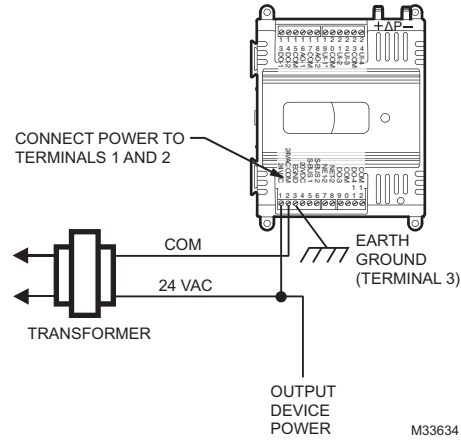

Fig. 8. Power wiring details for one controller per transformer.
Fig. 8 depicts a single controller using one transformer.
- Connect terminal 2, (the 24 Vac common [24 VAC COM] terminal) to earth ground (see Fig. 8).